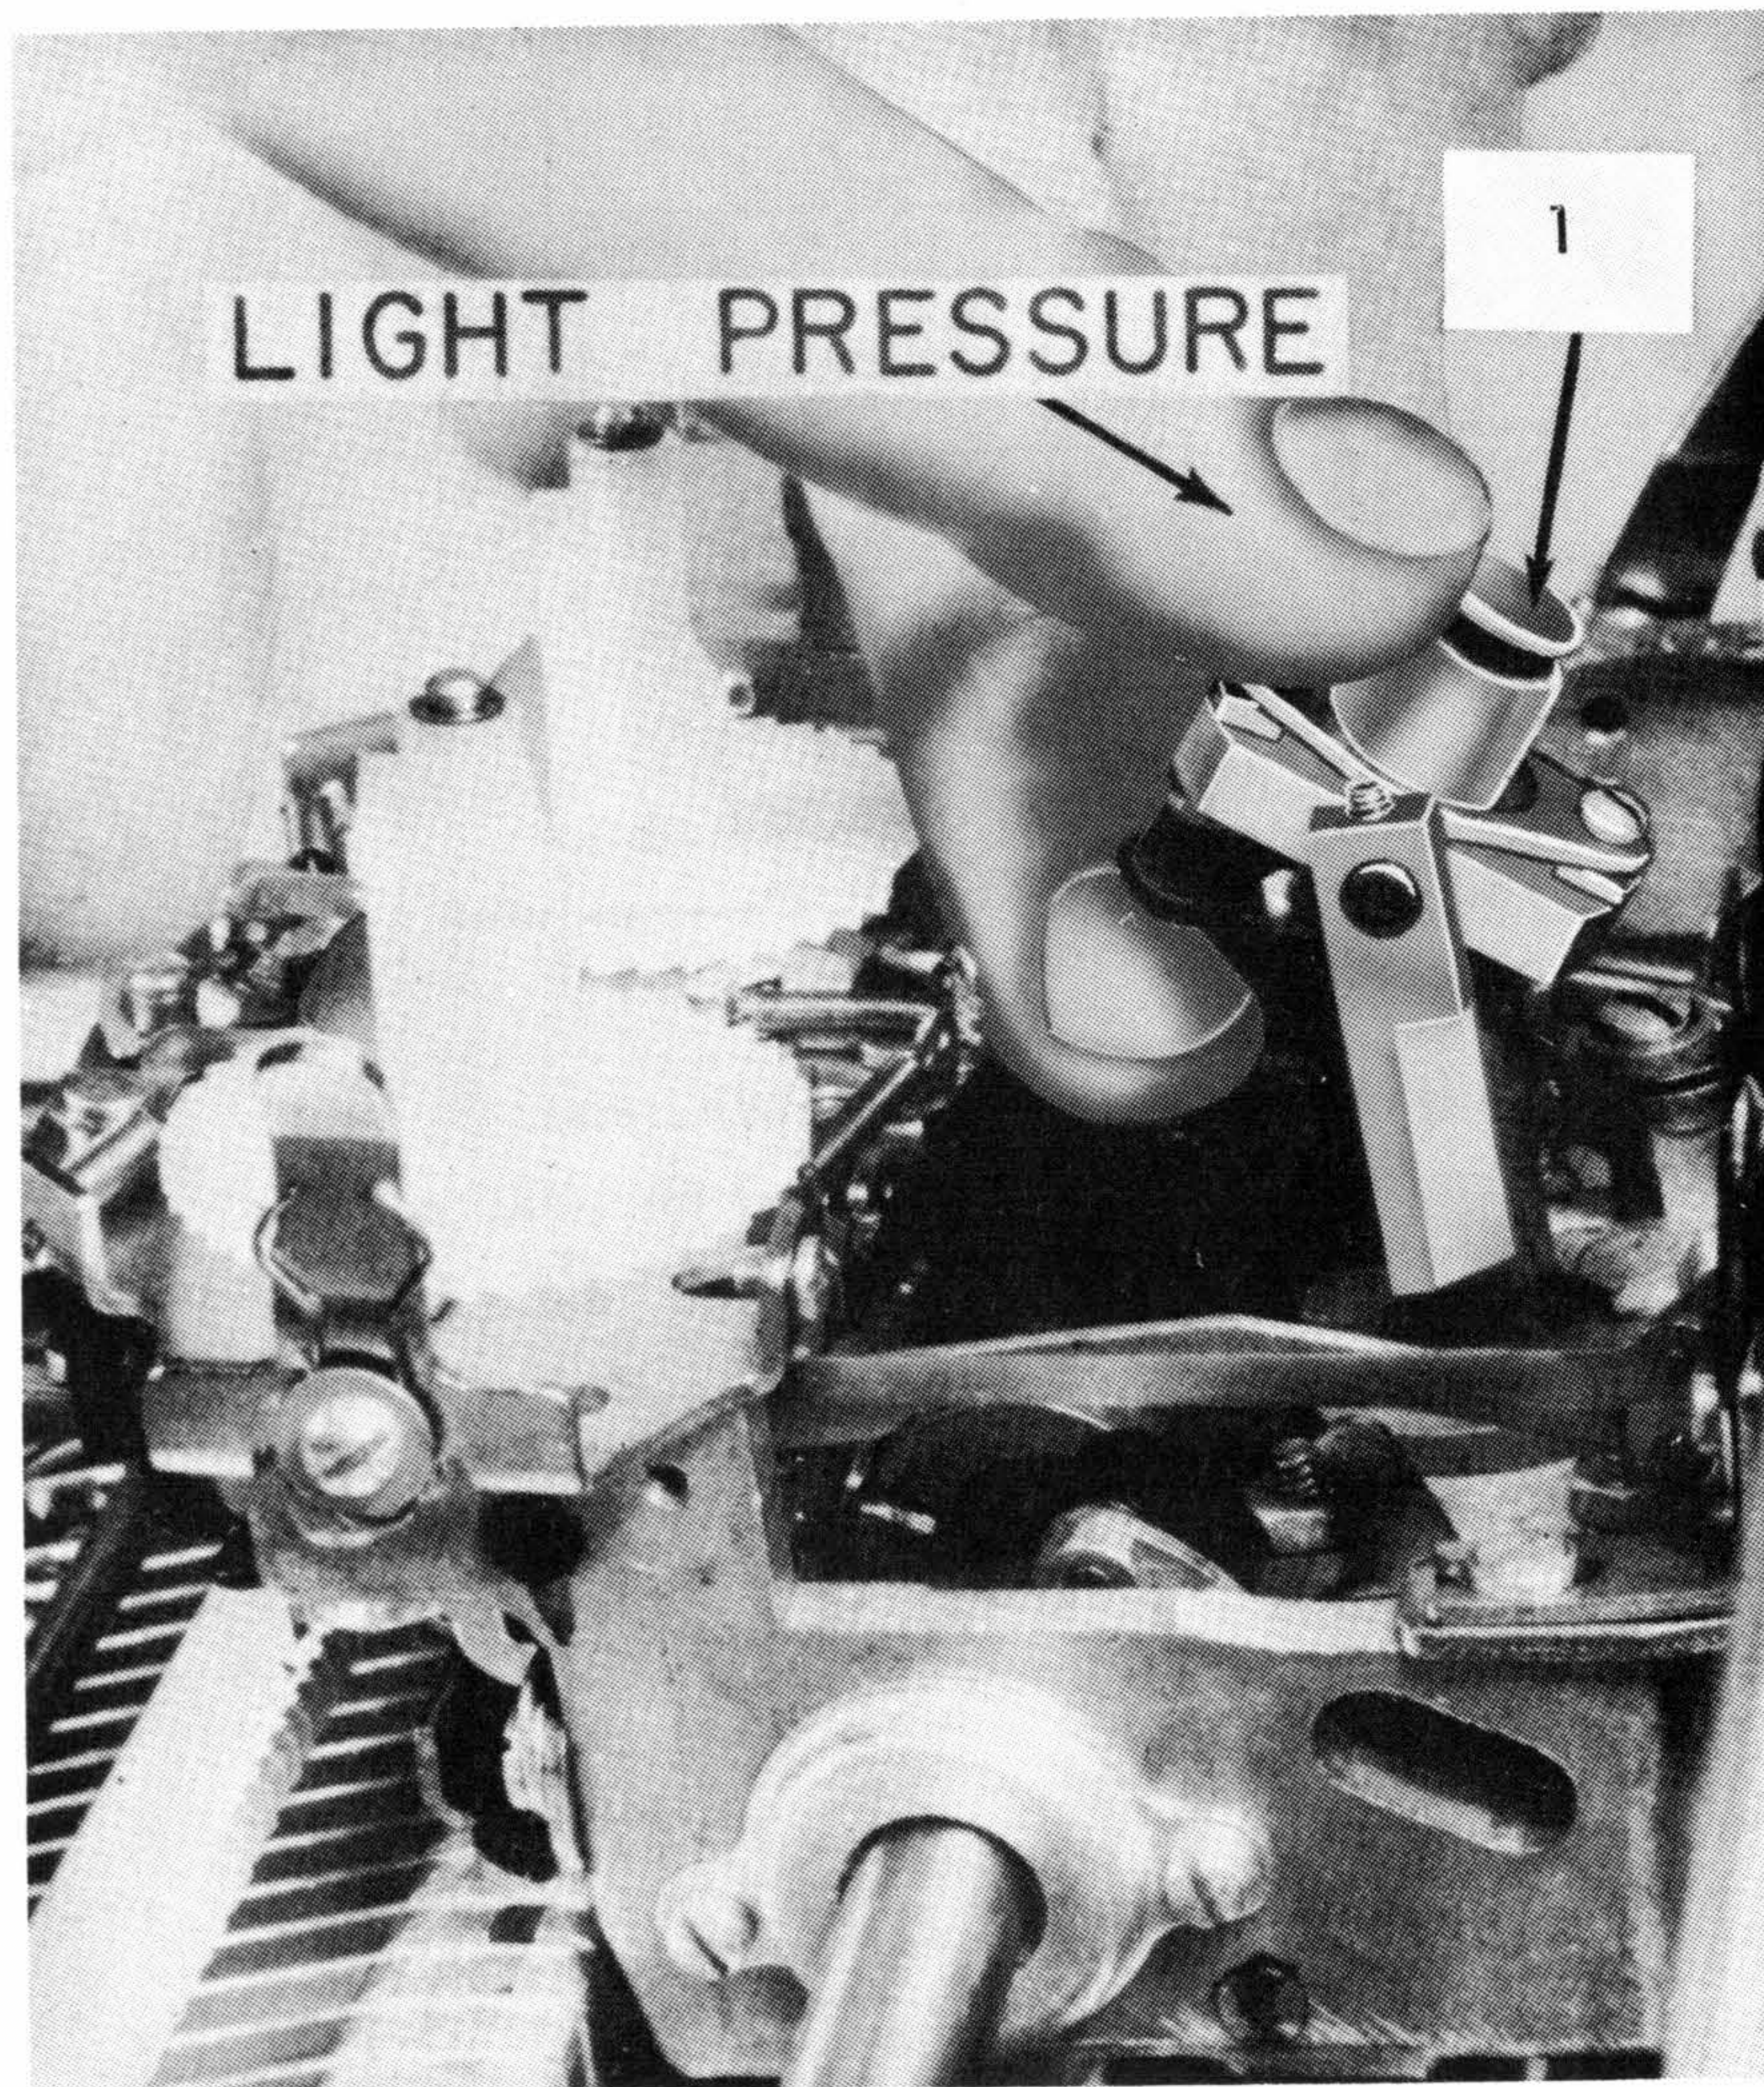

Figure 71. Tilt Detent
2. Right Hand Tilt Pulley (Fig. 72, Ref. Fig. 71) - Position so that when a zero tilt, zero rotate character is half cycled, the tilt detent enters just to the rear of the center of the notch with the backlash held lightly to the rear. NOTE: With the backlash removed in the opposite direction, the detent should not strike the tip of a tooth and snap into place. The locknut must be tight each time this adjustment is checked. NOTE: Adjustments 2 & 3 are inter-acting.